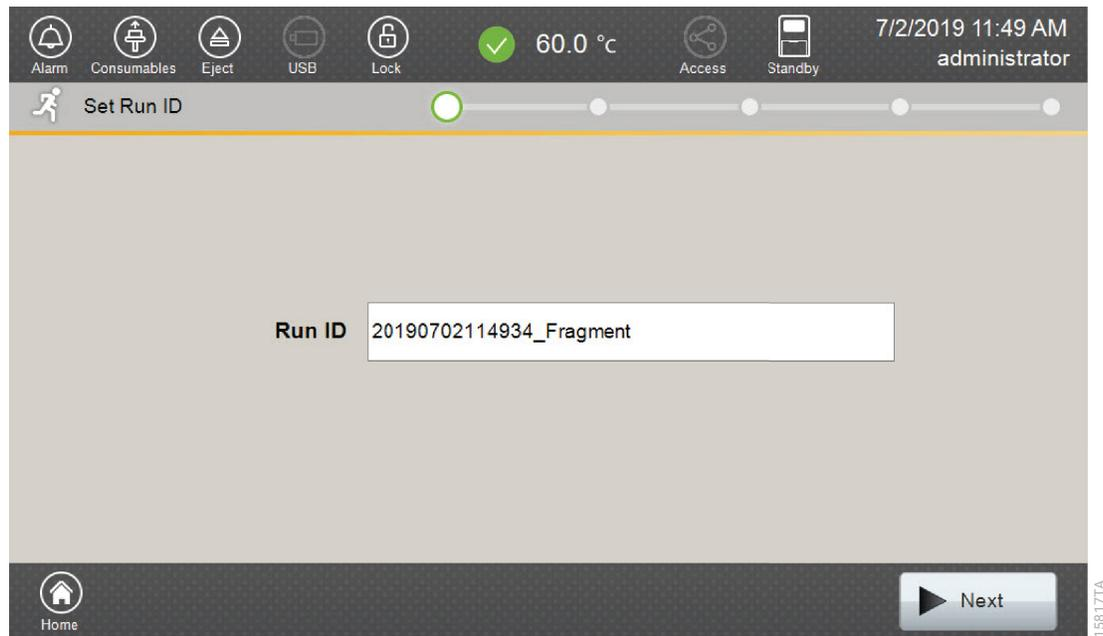

Figure 7. 'Set Run ID' screen.
4. Use the default name that includes date, time and "Fragment" or enter a Run ID on the 'Set Run ID' screen (Figure 7). Select the Run ID box to open the 'Run ID' window and a keypad will become active on the touch screen. Alternatively, the Run ID can be entered using a traditional keyboard if one is connected to the Spectrum Compact CE System.